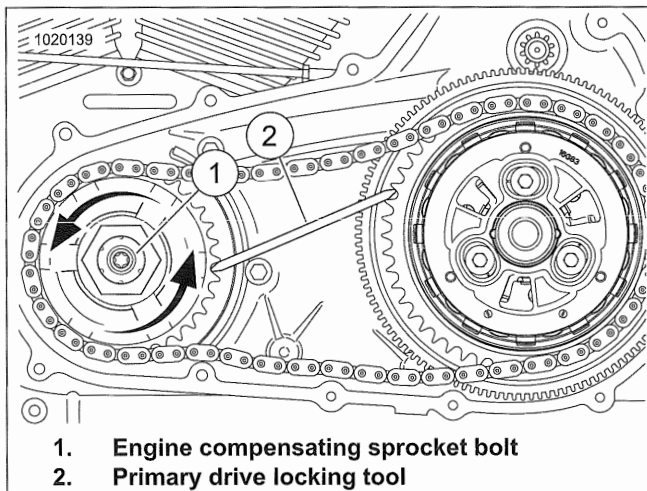
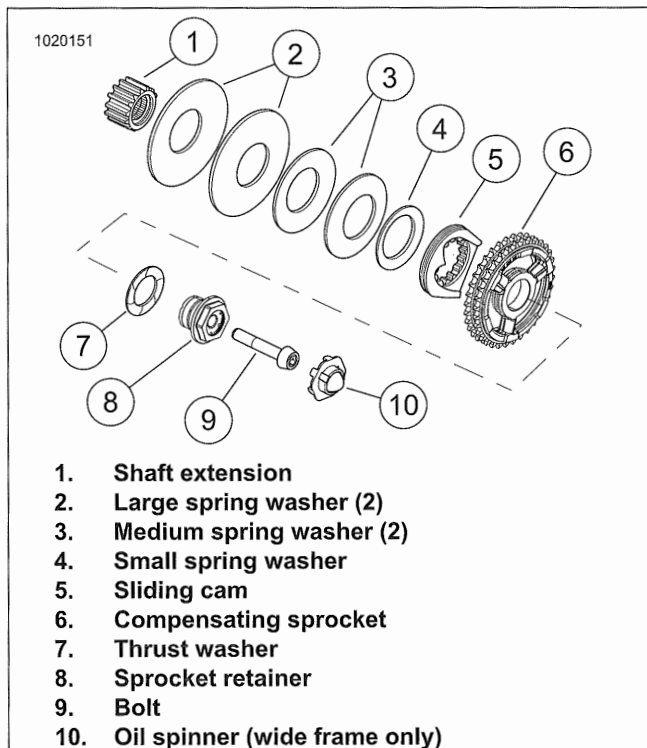
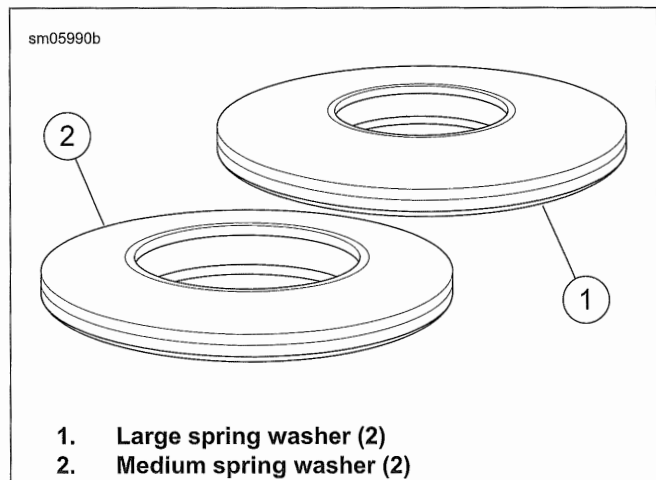

Figure 5-14. Removing Clutch Hub Mainshaft Nut
Figure 5-15. Engine Compensating Sprocket Assembly
Figure 5-16. Spring Washer Orientation
- b. **Wide frame only:** See Refer to Figure 5-15.. Discard oil spinner (10).
5. See Figure 5-14. Remove compensating sprocket bolt.
- b. Rotate compensating sprocket bolt (1) counterclockwise to loosen.
- c. See Refer to Figure 5-15.. Remove bolt (9), retainer (8) and thrust washer (7).
6. Inspect thrust washers (7) for damage.
7. Clean sprocket retainer (8). Verify that oil holes are clear.
1. See Figure 5-15 and Figure 5-16. Install spring washers.
- a. Apply a thin layer of primary chaincase oil to the inner diameter of the compensating sprocket (6) and the splines of shaft extension (1).
- c. Install large spring washers (2) and medium spring washers (3). Outer diameter of spring washers must contact each other.
- d. Install small spring washer (4) so outer diameter contacts sliding cam (5).
6. **Wide frame only:** See Figure 5-15. Install **new** oil spinner (10).